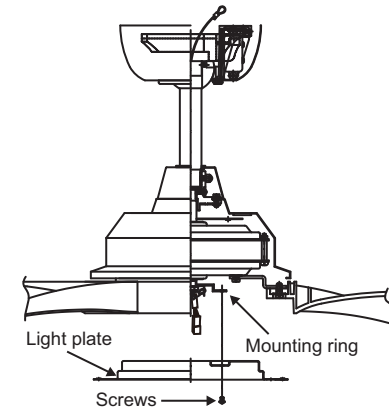

Fig. 16
Step 1. Loosen the two screws on the mounting ring attached to the motor shaft and "remove" and save the third screw. (Fig. 16)